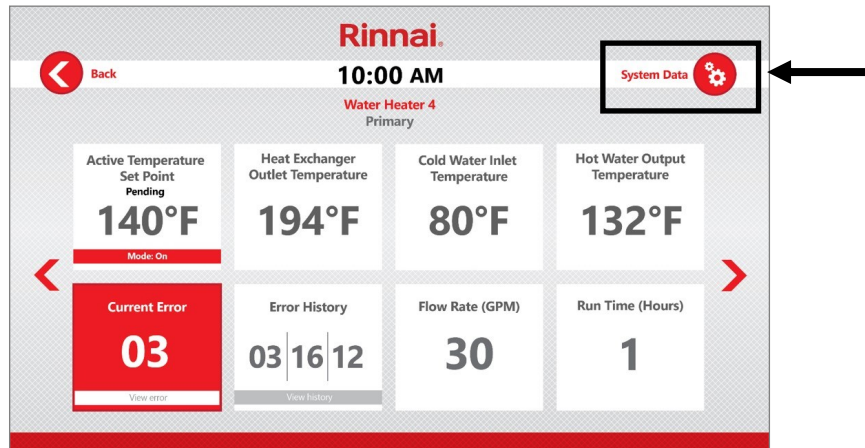

Fig 84. Press “System Data”
1. On the tankless water heater parameter screen, press “System Data” (Fig 84).